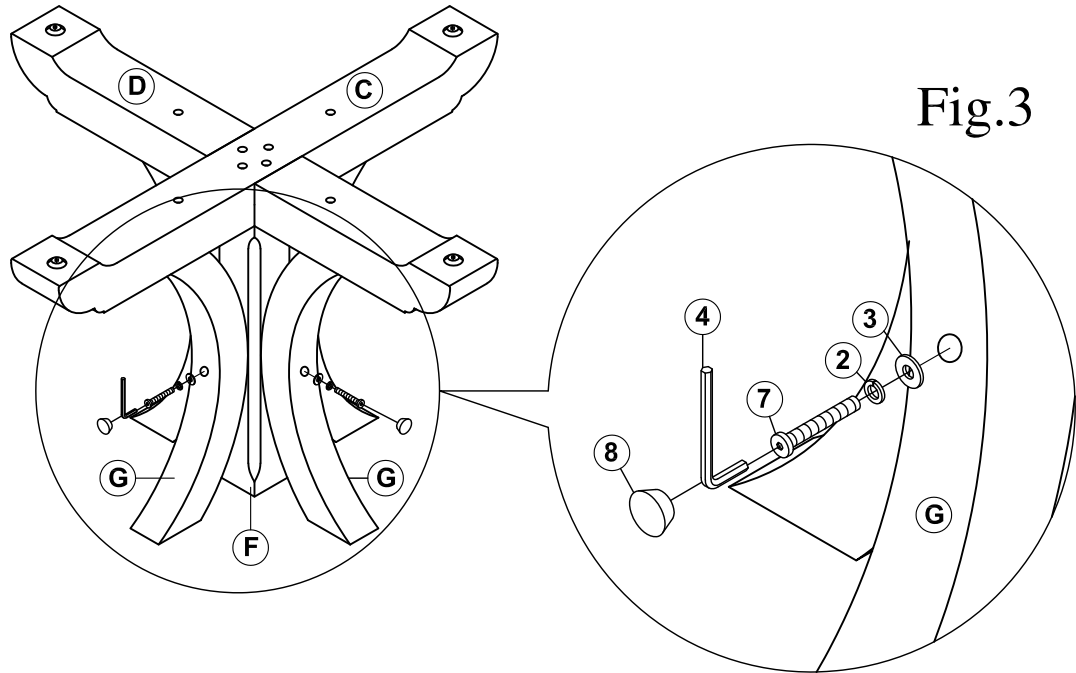

Fig.3
Attach Trestle Bar (G) to the Post (F) using the provided hardware as shown on Fig.3.